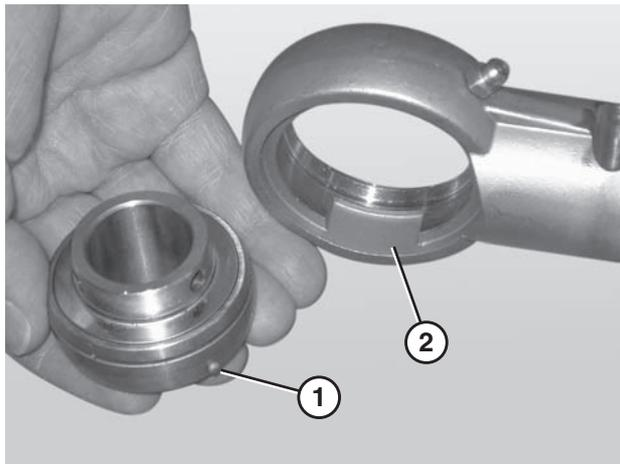

Figure 90
5. Remove the worn or damaged bearing (Figure 90, item 1).
When inserting the new bearing, make sure the anti-rotation notch (Figure 90, item 1) on the bearing lines up with the groove inside the housing (Figure 90, item 2).